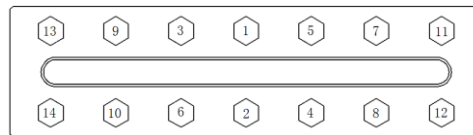

Fig 2 Fastener installation sequence
6. See fig.2 for the installation sequence of fasteners. When installing, firstly, pre-tighten the fastener in this order for one round, and then tighten it in this order again. The torque is 50N.m. It is not allowed to tight the fastener as 50N.m directly.